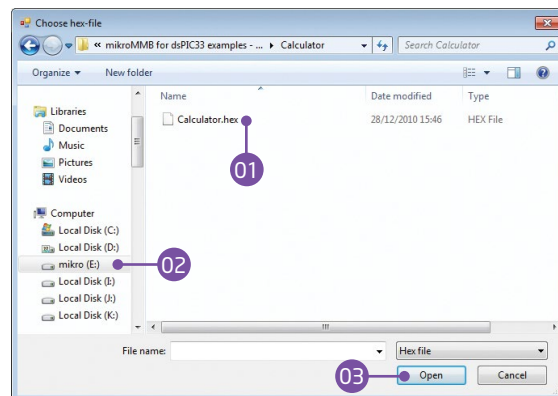

Figure 3-7: Pop-up window for .HEX file choosing
- 01 Click on **Browse** button and from pop-up window (figure 3-7) select .HEX file which will be uploaded to MCU memory